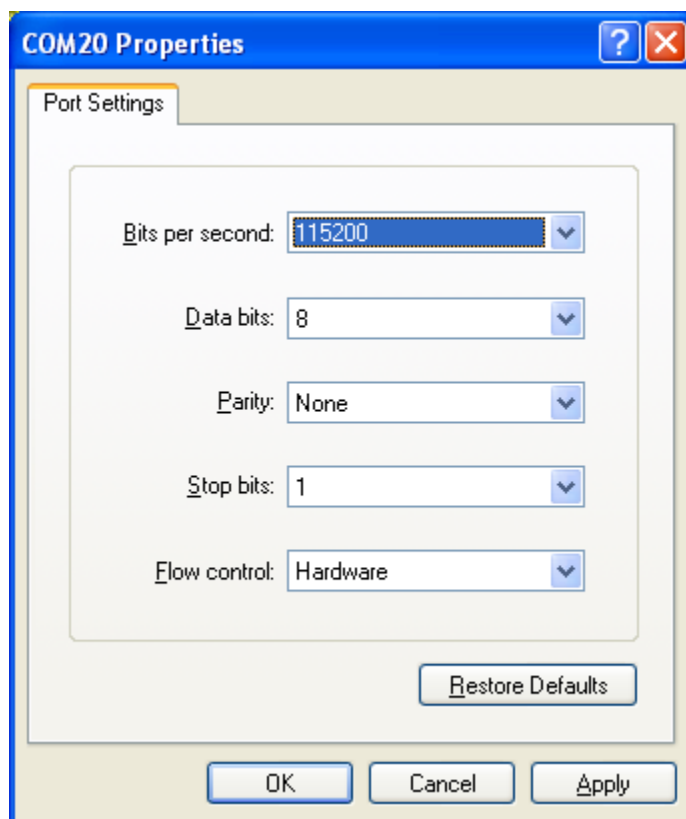

Figure 5-9 COM8 Properties
4. In the next window set the communication baud rate to 115200, data length to 8, no parity, one stop bit and no flow control, then click **OK** to complete the HyperTerminal configuration. Configure the virtual COM port baud rate and other properties as shown in **Figure 5-9**